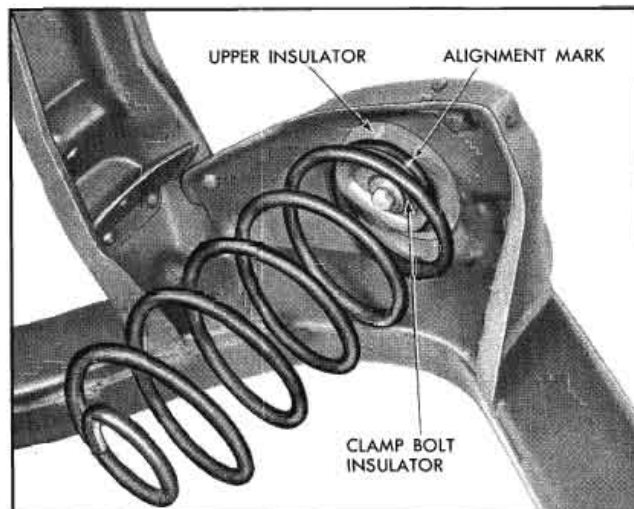

Fig. 3-32 Installing Rear Spring
13. Install upper bolt and clamp as an assembly into position on the spring. Turn spring, maintaining alignment of scribe marks, to give maximum clearance between front of rear spring and frame (Fig. 3-32).